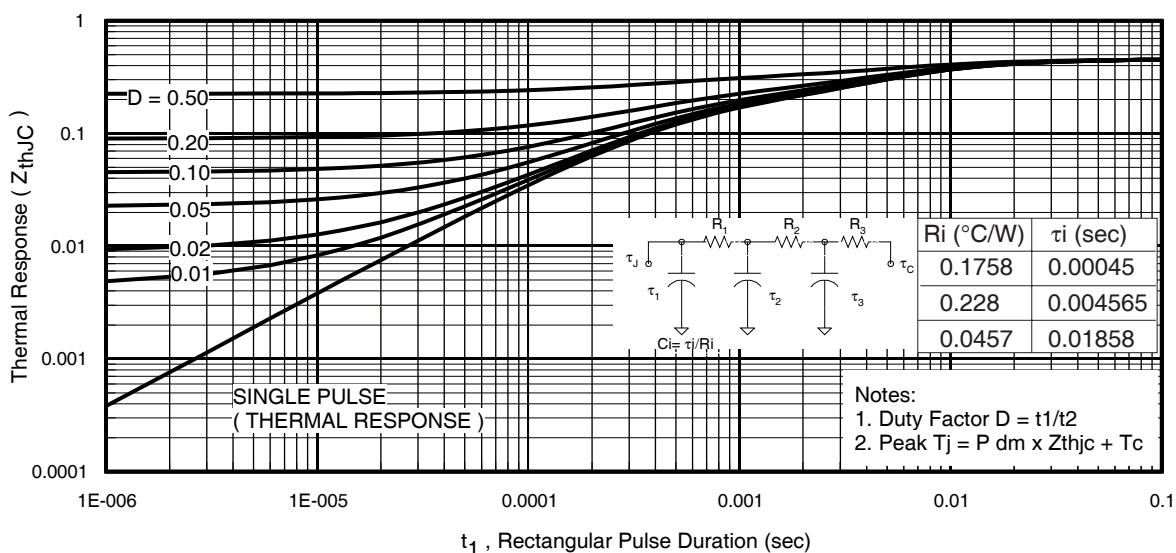
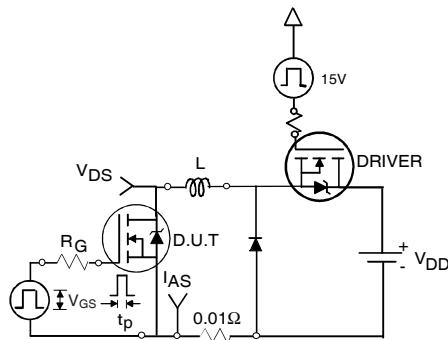

Fig 11. Maximum Effective Transient Thermal Impedance, Junction-to-Case
Fig 12a. Unclamped Inductive Test Circuit
- ① Repetitive rating; pulse width limited by max. junction temperature. (See fig. 11).
- ② Limited by $T_{J\max}$; starting $T_J = 25^\circ\text{C}$, $L = 0.17\text{mH}$ $R_G = 25\Omega$, $I_{AS} = 75\text{A}$, $V_{GS} = 10\text{V}$. Part not recommended for use above this value.
- ③ Pulse width $\leq 1.0\text{ms}$; duty cycle $\leq 2\%$.
- ④ C_{OSS} eff. is a fixed capacitance that gives the same charging time as C_{OSS} while V_{DS} is rising from 0 to 80% V_{DSS} .
- ⑤ C_{OSS} eff. is a fixed capacitance that gives the same charging time as C_{OSS} while V_{DS} is rising from 0 to 80% V_{DSS} .
- ⑥ Limited by $T_{J\max}$, see Fig.12a, 12b, 15, 16 for typical repetitive avalanche performance.
- ⑦ This value determined from sample failure population. 100% tested to this value in production.
- ⑧ R_0 is measured at T_J of approximately 90°C .
3. Equation below based on circuit and waveforms shown in Figures 12a, 12b.
- $Z_{thJC}(D, t_{av})$ = Transient thermal resistance, see figure 11)